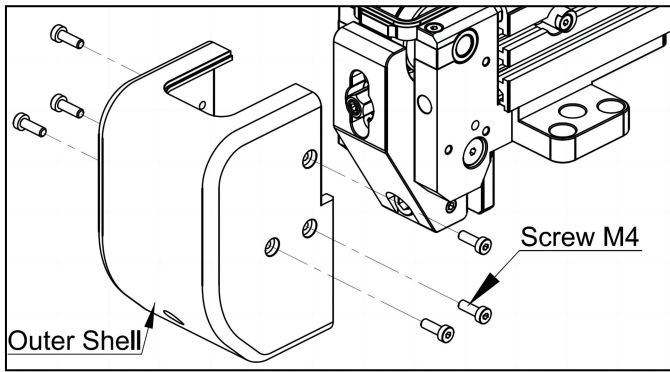

Fig. 9-4
- (4) Remove the outer shell by taking off the six M4 screws on both sides, as shown in **Fig. 9-4**.